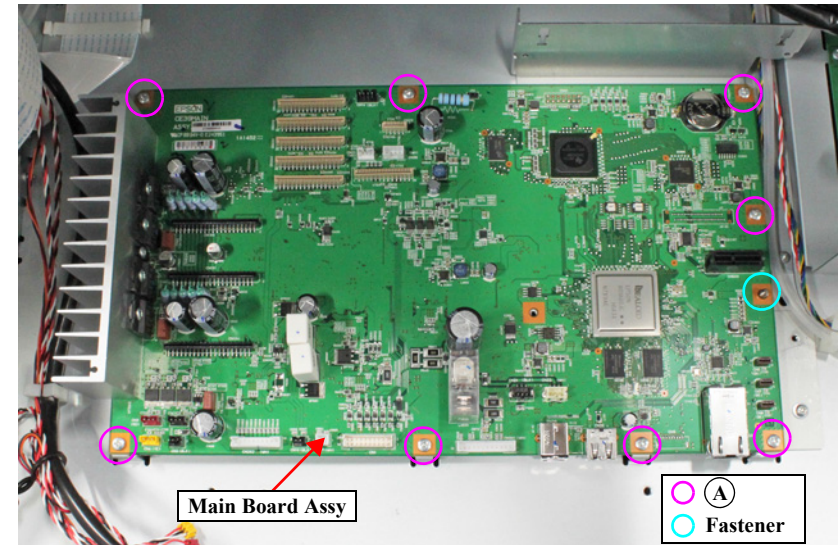

Figure 4-46. Removing the Main Board Assy
7. Remove the eight screws that secure the Main Board Assy. *See Figure 4-46.*